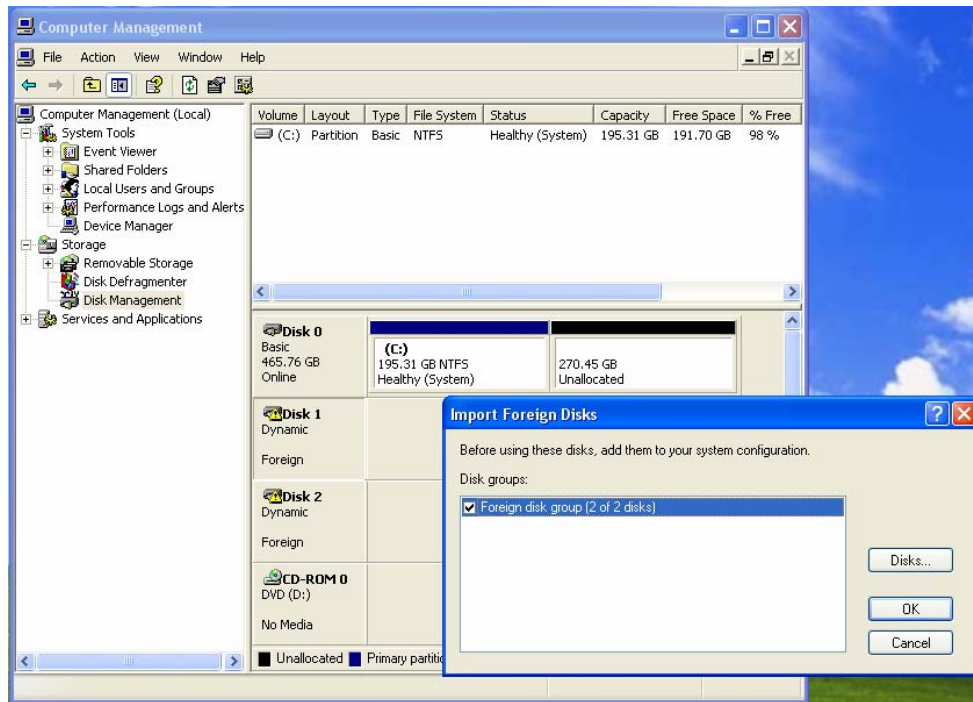

Figure 5-11
- 11) We now need to import **Disks 1 & 2** into Windows® XP using the following steps. Right-click on the **Disk 1** annotation and then select the **Import Foreign Disks** option, resulting in the **Import Foreign Disks** dialog as illustrated in Figure 5-11.